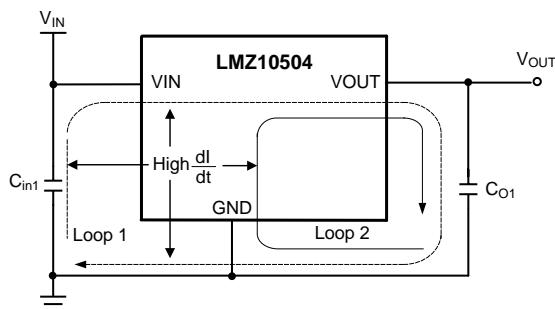

Figure 29. Critical Current Loops to Minimize
From an EMI reduction standpoint, it is imperative to minimize the high  $di/dt$  current paths. The high current that does not overlap contains high  $di/dt$ , see Figure 29. Therefore physically place input capacitor ( $C_{int}$ ) as close as possible to the LMZ10504 VIN pin and GND exposed pad to avoid observable high-frequency noise on the output pin. This will minimize the high  $di/dt$  area and reduce radiated EMI. Additionally, grounding for both the input and output capacitor should consist of a localized top side plane that connects to the GND exposed pad (EP).